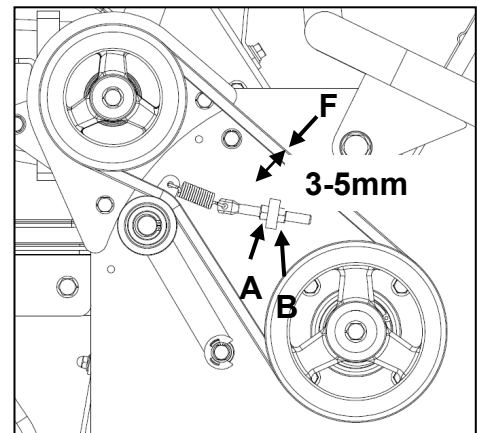

Figure 23
- Push the belt with a finger on (F, Figure 23) the belt must move from 3 to 5 mm. If the belt does not move accordingly, adjust with screws (A, Figure 23) & (B, Figure 23)